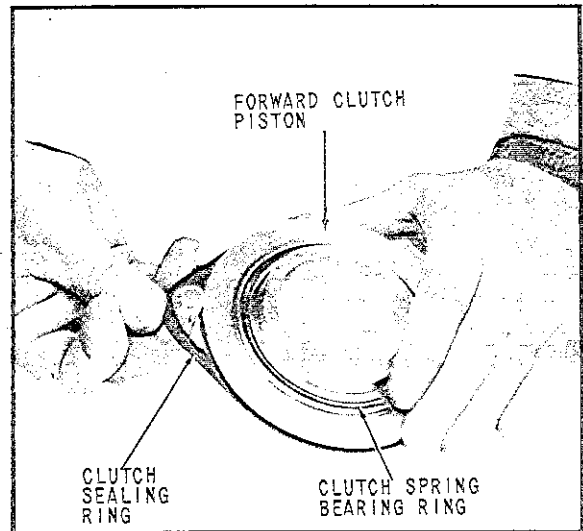

Fig. 39 Installing Clutch Sealing Ring
25. Remove forward clutch sealing rings, as shown in (Figs. 39 & 40).
ring and a lubricated clutch sealing ring, as shown in (Fig. 39). Inspect the inside diameter of the forward clutch piston having contact with the sealing ring; remove all burrs or scratches and lubricate before assembly.